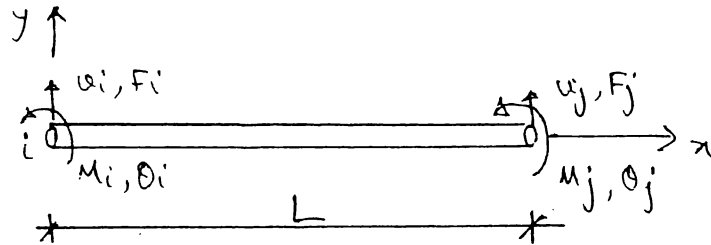

Fig. 4
5. (a) The beam shown in Fig. 4 has two degrees of freedom per node i.e., i and j . Assume necessary shape functions for these degrees of freedom and derive strain displacement matrix B for the element. (11 1/3)